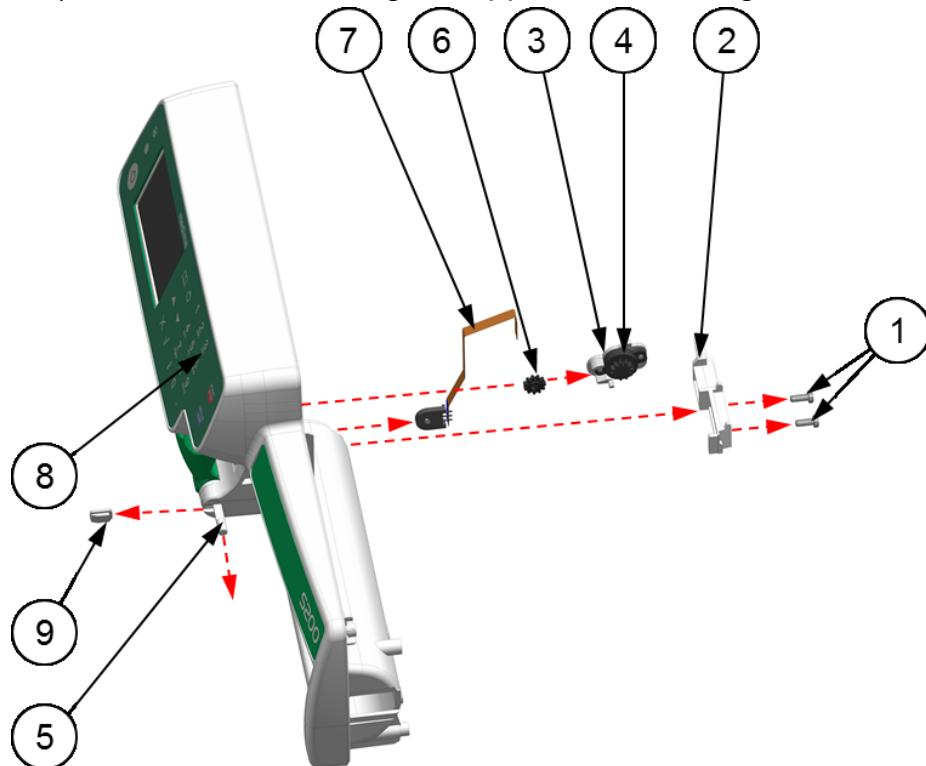

Fig. 54 Potentiometer removal/installation
2. By using the **TB-1** unscrew two **M3x8** screws (1) from an **Axle bearing fixture** (2) detail. In the next step, by using a **TB-6** flat-nosed pliers, remove the **Axle bearing fixture** (2) detail as shown in **Fig. 54**.
3. Using **TB-6** flat-nosed pliers, remove a **Rotary damper case** (3) together with a **Damper** (4) as shown in **Fig. 54**.
4. Using **TA-15** curved tweezers remove the **Gearwheel** (6) from the **Syringe clamp axle** (5) as shown in **Fig. 54**.
5. Using **TB-5** screwdriver, remove assembly glue from the **Potentiometer** (7).
6. Using **TB-5** screwdriver remove the **Axle socket plug** (9) detail from a **Front case** (8) as shown in **Fig. 54**.
7. Using **TA-5** torx screwdriver, remove the **Syringe clamp axle** (5) as shown in **Fig. 54**.
8. Using **TB-6** flat-nosed pliers hold part of the **Syringe clamp axle** (5) detail sticking out of the **Front case** (8) and carefully pull it over observing the position of its other end.
2. Using a sheet of paper towel soaked with **TB-11** alcohol clean the socket of the **Potentiometer (7)** in the **Front case (8)**.
3. By watching not to change the **Potentiometer (7)** socket position, slide the **Potentiometer (7)** detail in the socket in the **Front case (8)** opposite to the direction indicated by the red arrow in **Fig. 54**.
4. By using the **TA-53** special device for potentiometer assembly press the **Potentiometer (7)** in the socket in the **Front case (8)** opposite to the direction indicated by the red arrow in **Fig. 54**.
5. By using the **TB-1** screwdriver, press the **Syringe clamp axle (5)** detail in to the mechanical end opposite to the direction indicated by the red arrow in **Fig. 54**.
6. In the **Front case (8)** socket, place the **Axle socket plug (9)** opposite to the direction indicated by the red arrow in **Fig. 54**.
8. Using the **TA-15** curved tweezers place the **Gearwheel (6)** detail on the end of the **Syringe clamp axle (5)** detail, and then slide it on the **Axle (5)**.
9. Piece the **Rotary damper case (3)** together with the **Damper (4)** opposite to the direction indicated by the red arrow in **Fig. 54**.
10. In the **Front case (8)** place the **Axle bearing fixture detail (2)** opposite to the direction indicated by the red arrow in **Fig. 54**.
11. By using the **TA-41** screwdriver with the **TA-42** replaceable shaft screw two **M3x8 (1)** screws, fastening **Axle bearing fixture (2)** to the **Front case (8)**.